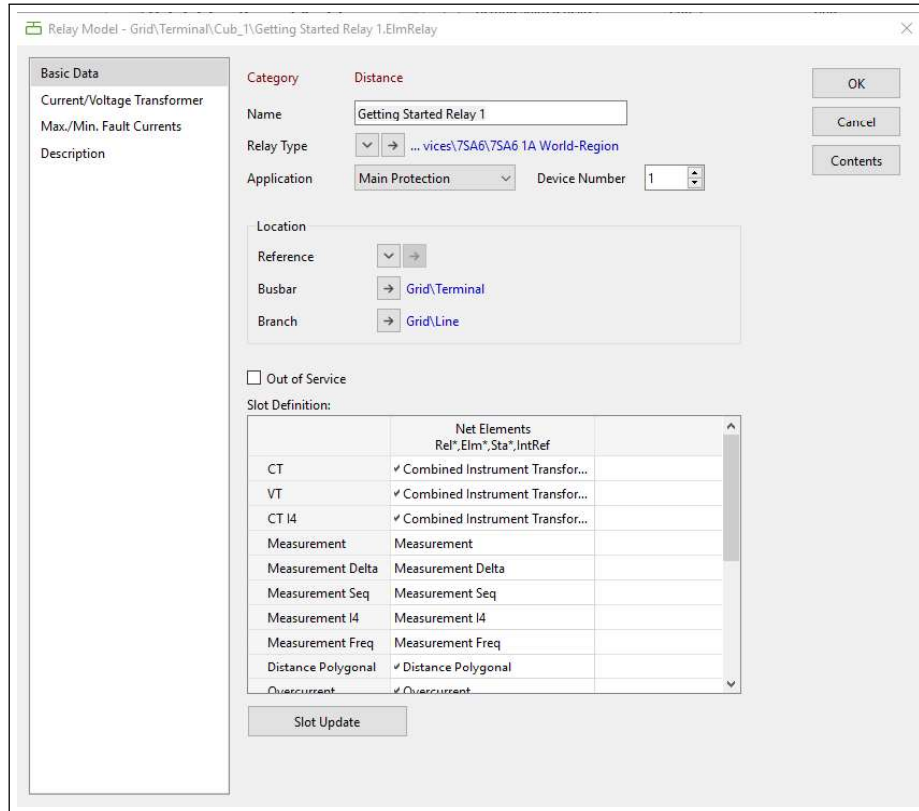

Figure 24.13.10: Relay dialog
- select an appropriate *Relay Type* which supports *StationWare* import/export (see Figure 24.13.10),